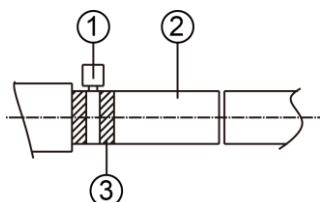
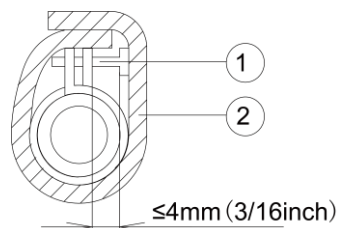

Fig 4.3.2
Fig 4.3.3
- (1) Insert the drain hose into the drain hole and tighten it with tapes, as shown in Fig 4.3.2.
- (2) Tighten the pipe clamp, with the distance between screw nut and hose smaller than 4mm.
- ① Metal clamp(accessory)
- ② Drain hose(accessory)
- (3) Use sealing plate to make the pipe clamp and hose insulated, as shown in Fig 4.3.3.
- ② Thermal sponge(accessory)